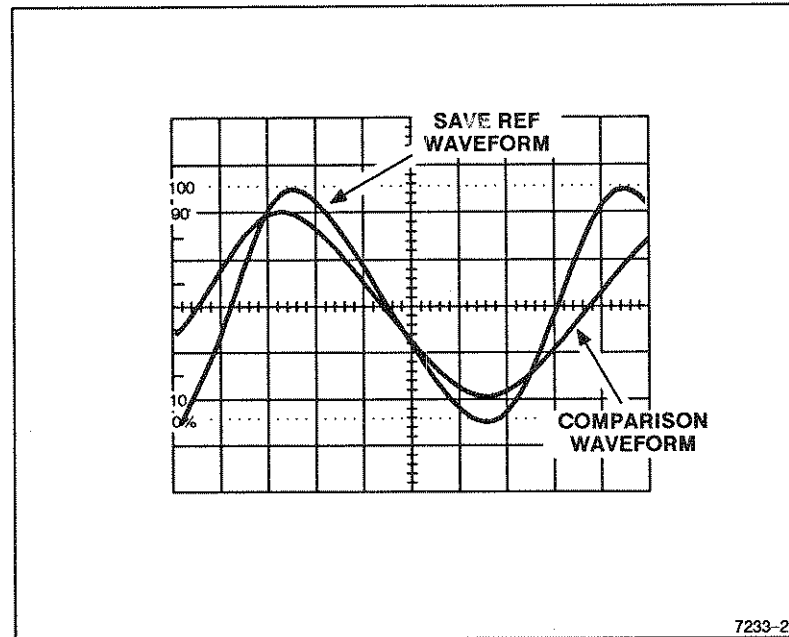

Figure 6-12. Waveform comparison.
- Use the Reference POSITION control to overlay the reference waveform on the newly acquired waveform for making the comparison (see Figure 6-12). The STORE mode vertical deflection and sweep rate are calibrated to allow direct measurement from the graticule.